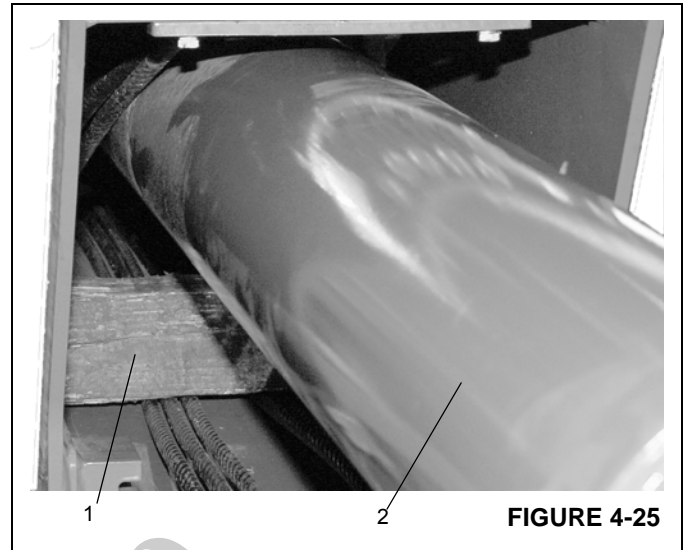

FIGURE 4-25
3. Place wood block (Figure 4-25, 1) under cylinder and remove the four bolts and bushings securing the cylinder barrel (Figure 4-25, 2) to the rear of the outer mid.
1. Attach a suitable lifting device to the Tele Cylinder. Raise cylinder and remove blocking device (Figure 4-25, 1) from under the cylinder.